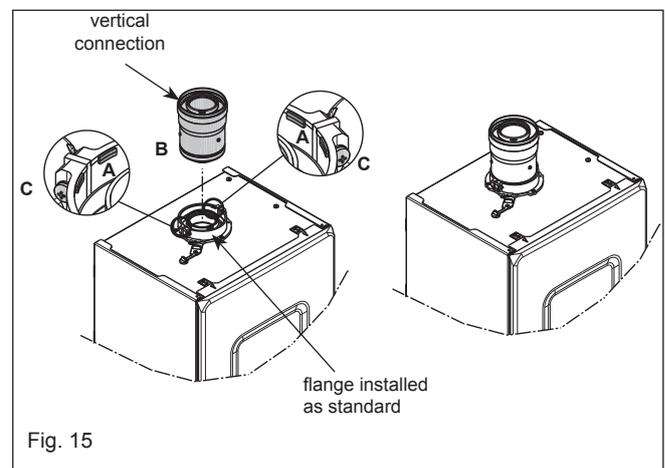

Fig. 15
**NOTE (Fig. 15):** The appliance incorporates a 'click-fit' flue connection. Ensure that both screws 'C' on the 'click-fit' have been slackened off. Ensure that the connector is correctly aligned with the 'click-fit' and insert it into the 'click-fit' until it clicks into position (this is when the tabs at points 'A' are located in the groove of the flue bend connector). Both screws (C) should now be tightened.
When cutting an extension to the required length, you must ensure that the excess is cut from the plain end of the extension (Fig. 15). Remove any burrs, and check that all seals are located properly. You must ensure that the entire flue system is properly supported and connected. Seal the flue assembly to the wall using cement or a suitable alternative that will provide satisfactory weatherproofing. The interior and exterior trim can now be fitted.
Using Fig. 15 as a reference, cut a 110mm diameter hole in the roof and/or ceiling to facilitate the route of the vertical flue system. **NOTE:** ensure that the top of the appliance - if already in position - is covered and protected from the possibility of any dust or debris falling or entering the appliance via the flue outlet.
**NOTE (Fig. 15):** The appliance incorporates a 'click-fit' flue connection. Ensure that both screws 'C' on the 'click-fit' have been slackened off. Ensure that the connector is correctly aligned with the 'click-fit' and insert it into the 'click-fit' until it clicks into position (this is when the tabs at points 'A' are located in the groove of the vertical flue connector). Both screws (C) should now be tightened.